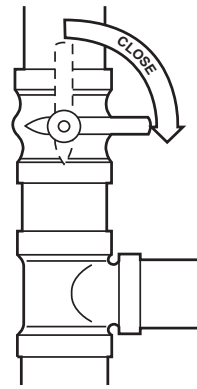

Fig. 2 - Close Valve
2. Close the external manual gas valve. See Fig. 2.